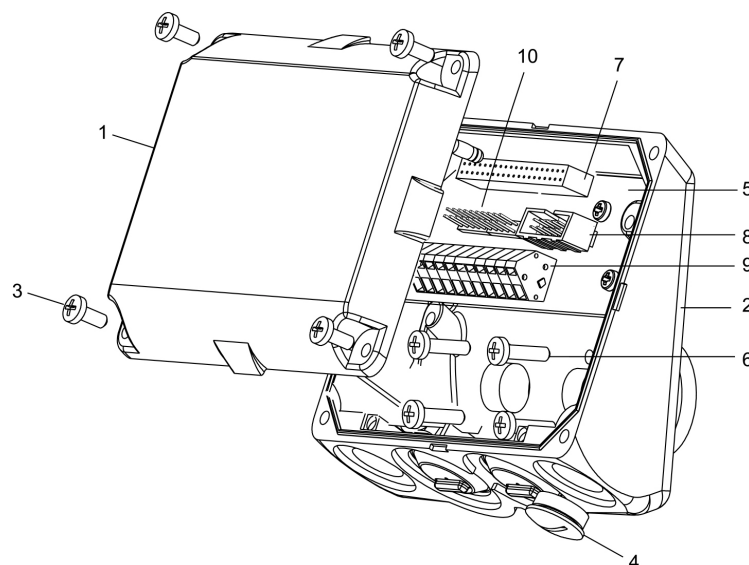
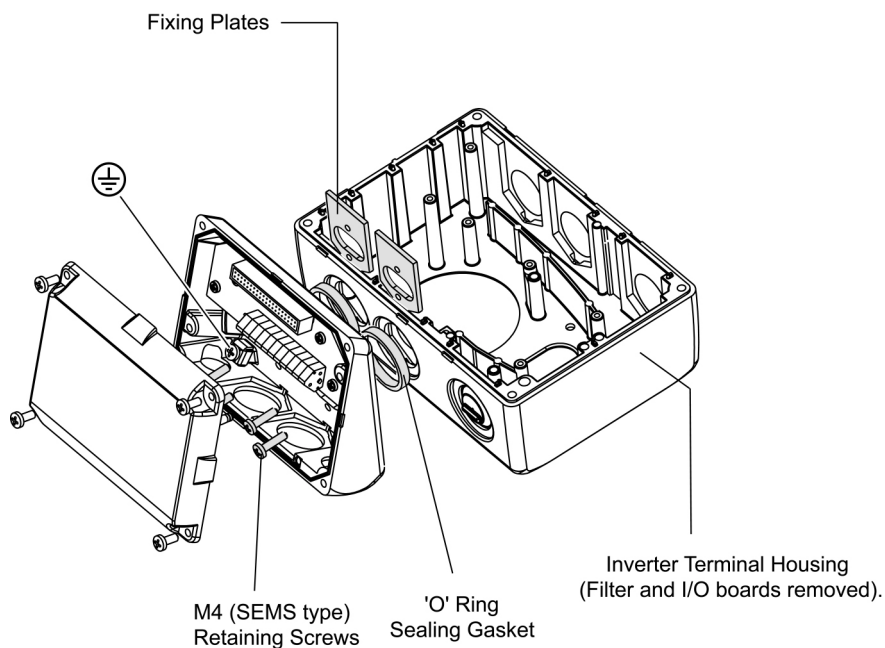
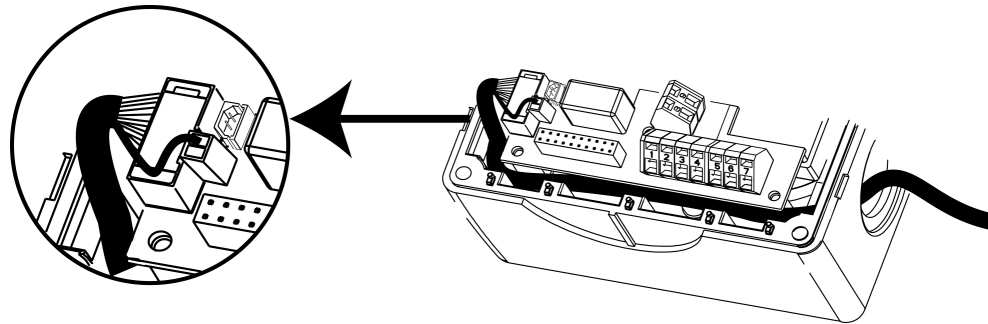

Figure 4-5 PROFIBUS Module Layout
Figure 4-6 PROFIBUS Module Fixing to Inverter
Figure 4-7 Fitting the Communications Cable
1. Unscrew the four cover retaining screws (3) (see Figure 4-5).
2. Carefully detach the module cover from the base (2).
3. Insert the 'O' ring sealing gaskets (see Figure 4-6).
4. Align the Options case with the Fixing plates (See Figure 4-6).
5. Fasten the Options module base to the fixing plates using the retaining screws (6) (see Figure 4-5).
6. Feed the supplied comms link cable between the PROFIBUS comms socket (8) (see Figure 4-5) and the corresponding comms socket on the inverter I/O board (see Figure 4-7).
7. Terminate the comms link cable screening lead on the Inverter I/O board (see Figure 4-7).
10. Using the U-clamp and screw, connect the earth lead (attached to the fixing plate) to the earth stud (shown as $\oplus$ in Figure 4-6) within the module housing.
18. Align the corresponding sub-assemblies so that the opposing sections of the in-line pcb connector (7) mate (see Figure 4-5).
19. Apply a gentle pressure until the lid (1) is firmly closed.
20. Secure the lid via retaining screws (3) at each corner.
The cable screening lead on the cable should be connected to the I/O board (see Figure 4-7).